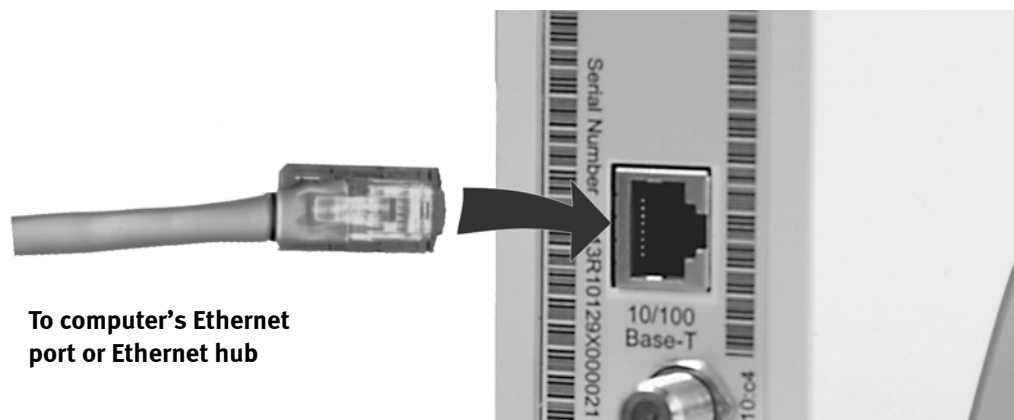

Figure 1-8 Ethernet 10/100 Base-T Connection
2. Plug one end of the Ethernet cable into the RJ45 socket labeled **10/100Base-T** on the Indoor Unit, as illustrated in *Figure 1-8*.